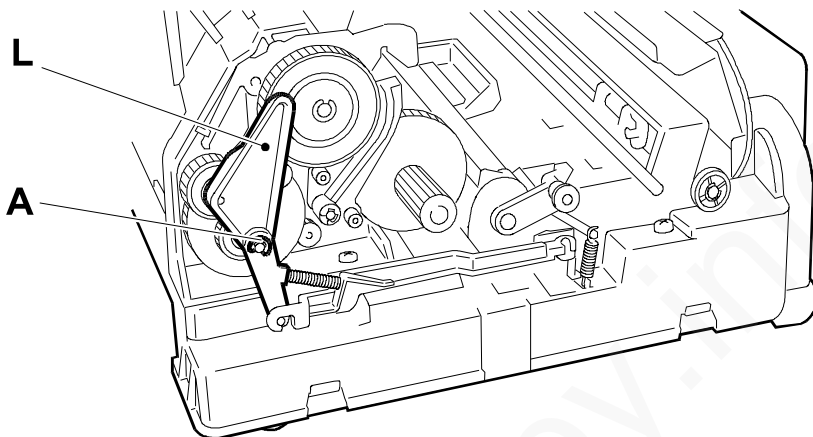

Fig. 7-46
- 3) Remove bracket **A** and extract lever **L** with the related mechanisms (Fig. 7-46):